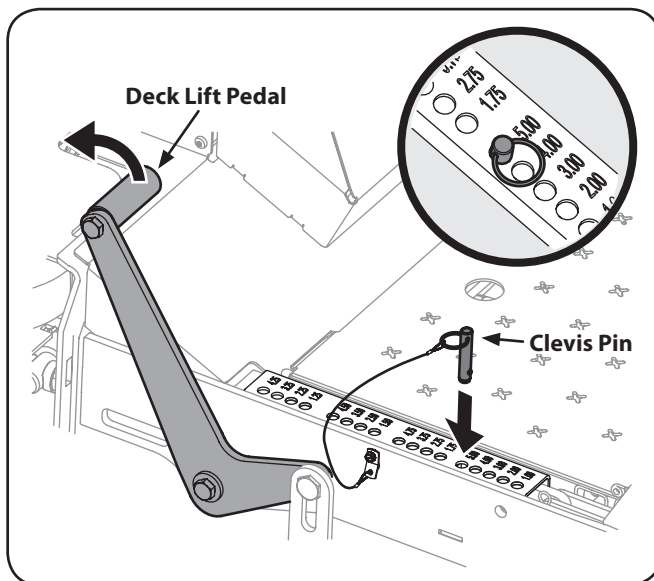

Figure 3-1
2. Use the deck lift pedal to raise the deck to its highest position and secure in place with the clevis pin attached to the tractor. See Fig. 3-1.